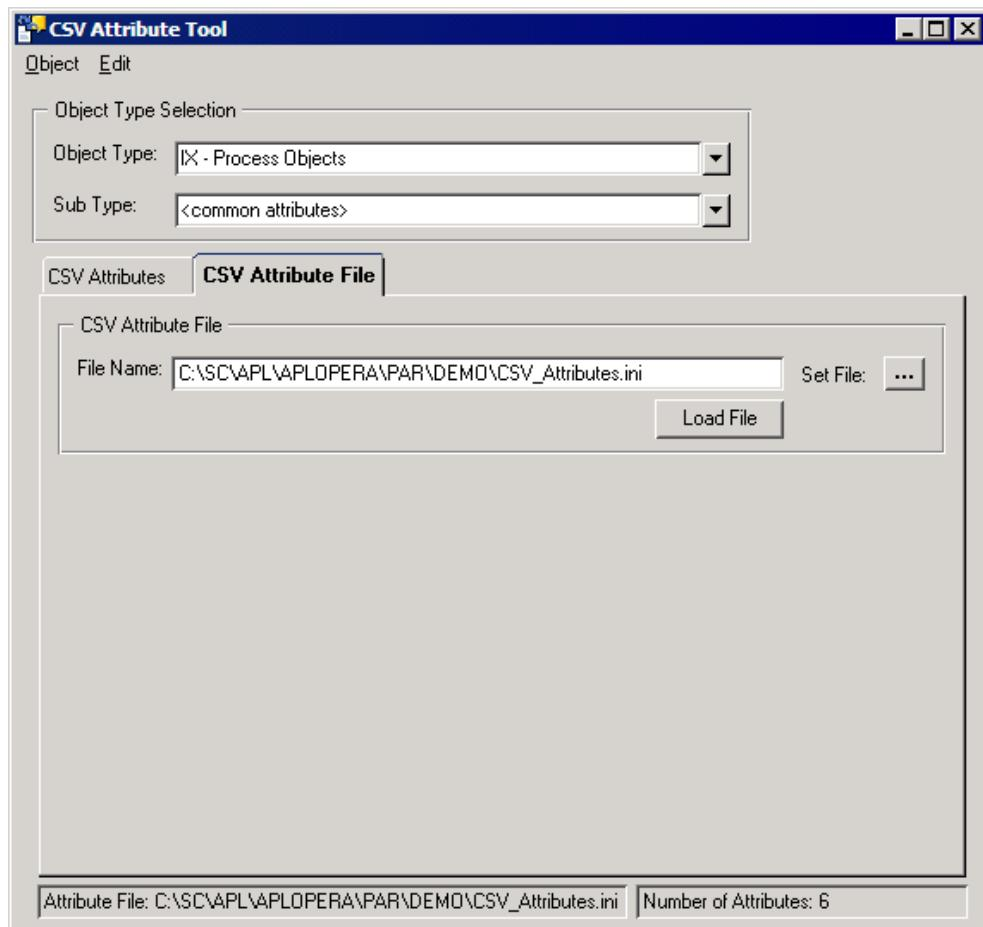

Figure 23: CSV Attribute File tab
- Click the **CSV Attribute File** tab to change a CSV attribute file. Change the file by clicking Set File (the button with three dots). New attribute names can be loaded from the file by clicking the **Load File** button. See Figure 23.